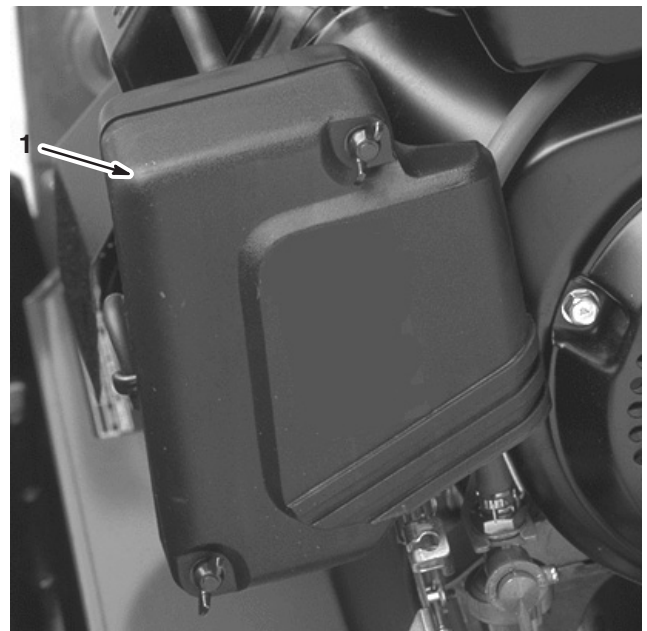

Figure 29
2. Remove the wing nuts securing the air cleaner cover to the air cleaner and remove the cover (Fig. 29).
3. Clean the cover thoroughly (Fig. 29).